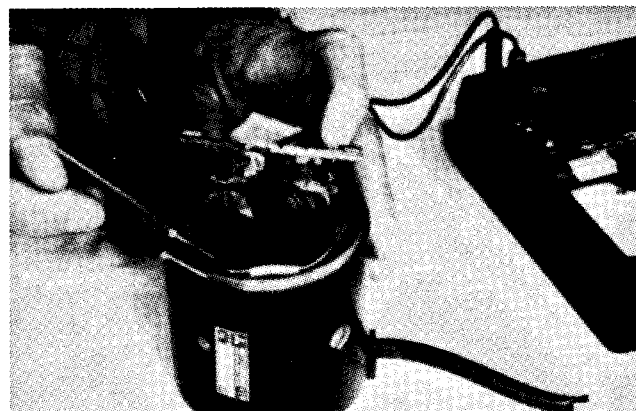

Figure 49
14. Check for continuity between one end of field coil (brush) and yoke (Fig. 49). There should be no continuity. Check for continuity between both ends of coil (brushes). There should be continuity if the field coil is good. Check the poles and coil for tightness.